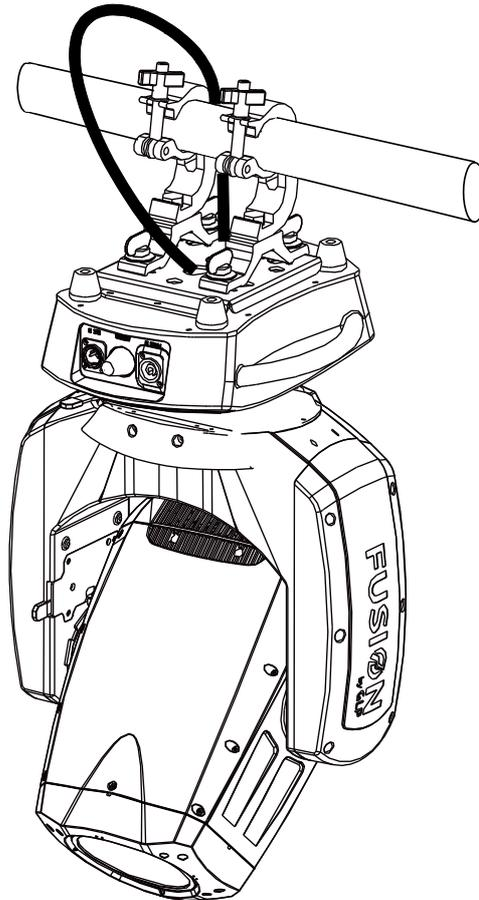
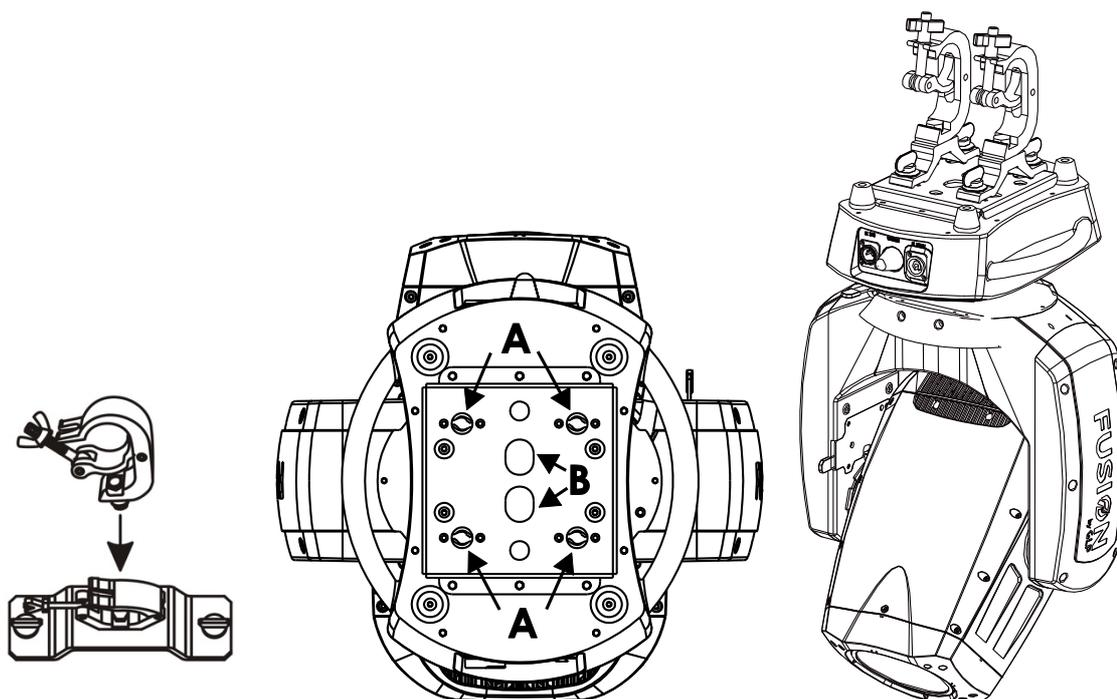

Figure 3. Safety cable attachment
Figure 4. Omega bracket fasteners
2. See Figure 3 and Figure 4. Fasten the safety cable through the slot "B" on the underside of the fixture base. Check that the fixture is now secured.
2. Line up the fasteners of the Omega bracket with the holes "A" in the base of the EXO Spot 30 as shown in Figure 4. The brackets may be installed either way round so the cabling is in line with the bar or at right angles to it.